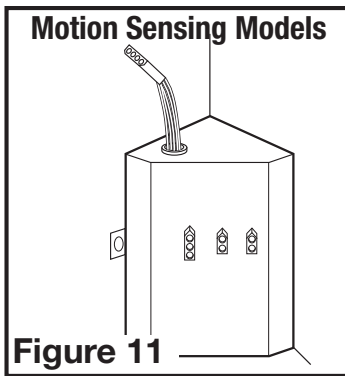

Figure 11
- 3c. **MOTION SENSING MODELS:** Plug the fan's 2 pin quick connect motor cord into the receptacle located on the side of the wire compartment cover. Plug the 3 pin quick connect motor cord into the shorter end of the included harness then into the receptacle located on the top of the wire compartment cover. These cords will only fit one way into the receptacles (**Figure 11**).